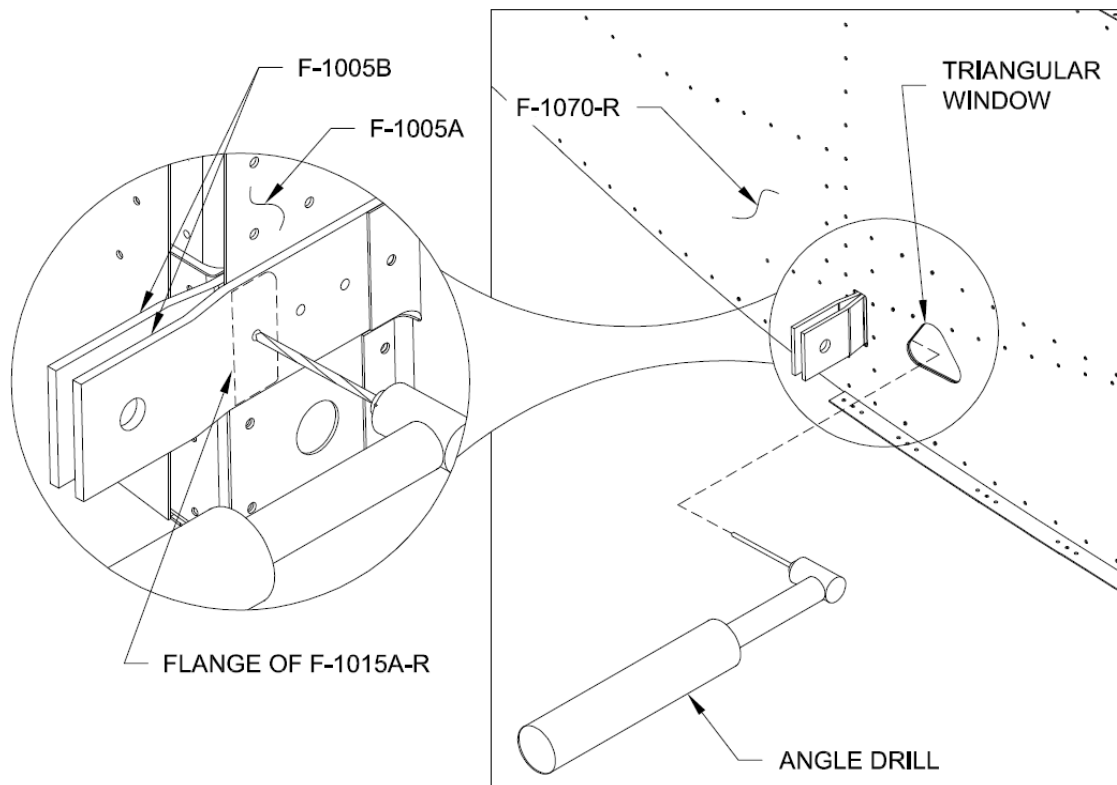

FIGURE 4: REMOVING THE RIVET THROUGH THE FINISHED WINDOW
Step 12: Using the #40 drill bit in the angle drill, drill through the outboard-most rivet as shown in Figure 4.